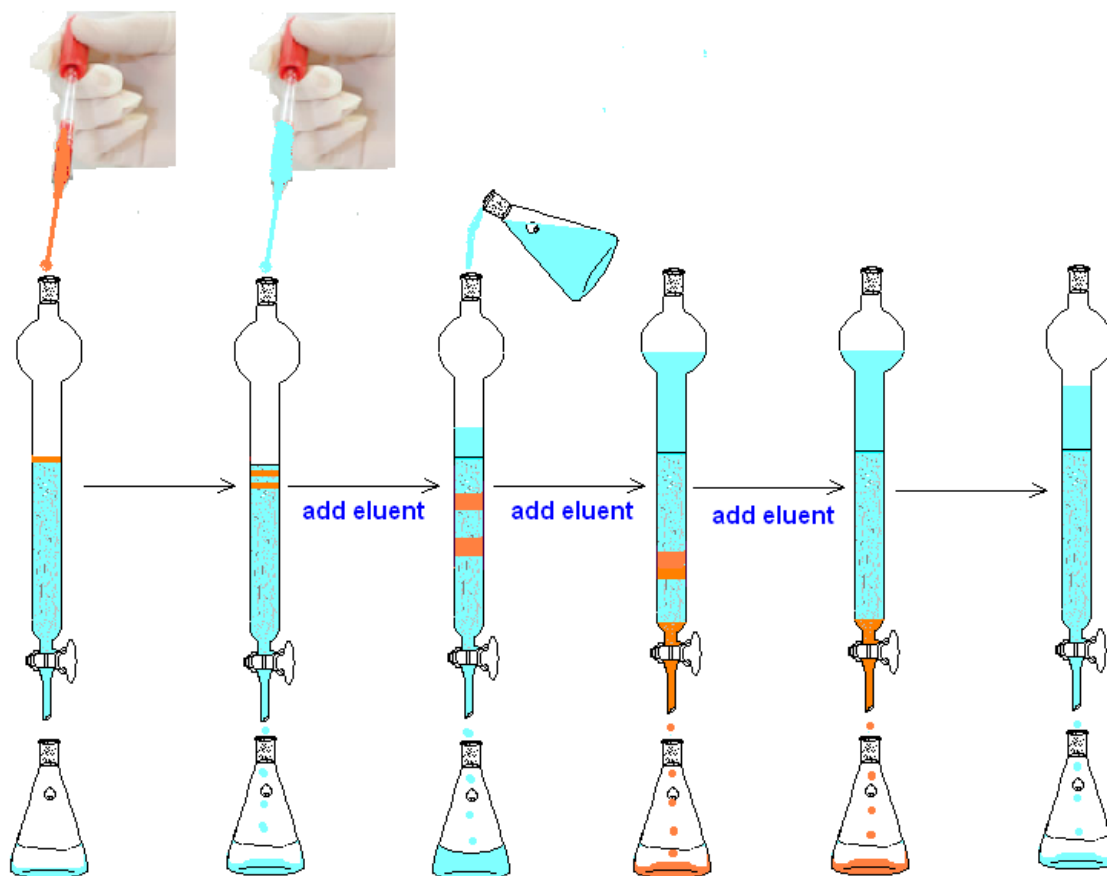

Figure 2.3. Flash Column Chromatography
2. Close the valve and load the content of reaction flask on the top of flash column using a Pasteur pipette (Fig. 2.3).